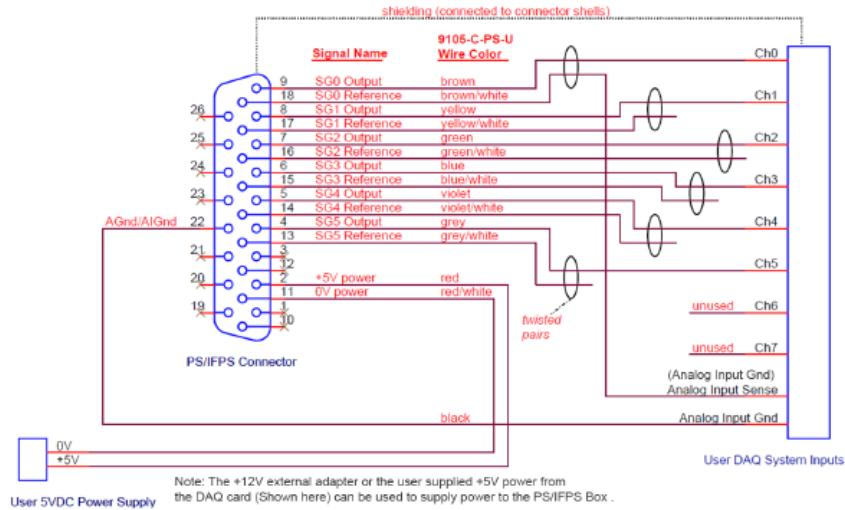

Figure 3: Single-ended wiring connections to data acquisition system (page 36 from 9620-05-DAQ)
- Single-ended connections to DAQ(Figure 3)